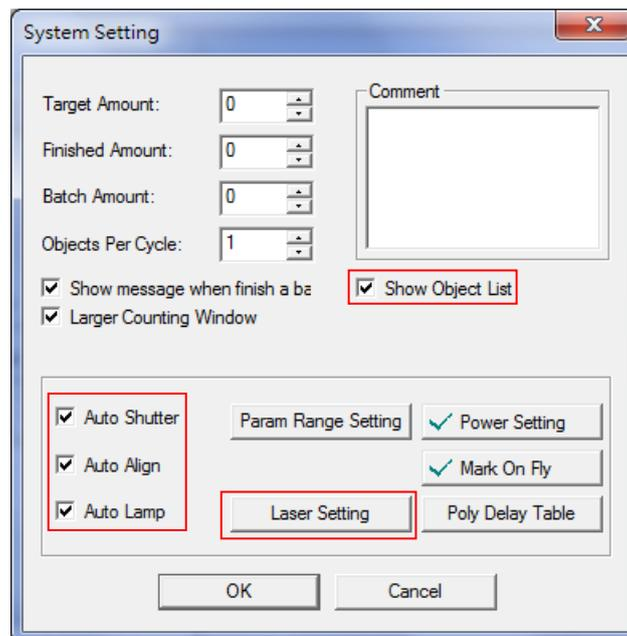

Fig. 1.6.02
**System Setting:** Set the marking related parameters, see Fig.1.6.02. Some parameters are the same as parameters of System Property Table (refer to 3.1.3), in this case, the followings only introduce the different parameters (red flames of Fig.1.6.02).
**Expected:** Display the expected marking amount. (This will be display only when setting the Target Amount value in “System Setting,” see Fig.1.6.02)